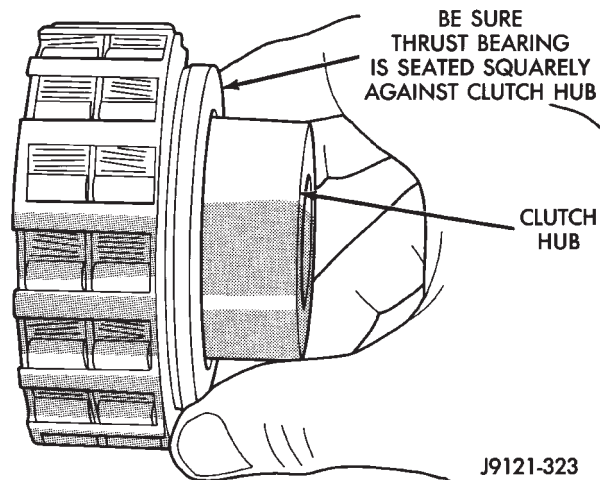

Fig. 282 Overrunning Clutch Thrust Bearing Installation
(9) Install thrust bearing on overrunning clutch hub (Fig. 282). Use generous amount of petroleum jelly to hold bearing in place for installation. **Bearing fits one way only. Be sure bearing is seated squarely against hub. Reinstall bearing if it does not seat squarely.**